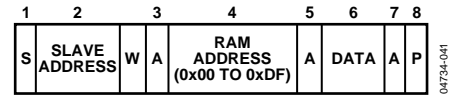

Figure 30. Single Byte Write to RAM
- To write a single byte of data to RAM. In this case, the command byte is the RAM address from 0x00 to 0xDF and the only data byte is the actual data, as shown in Figure 30.